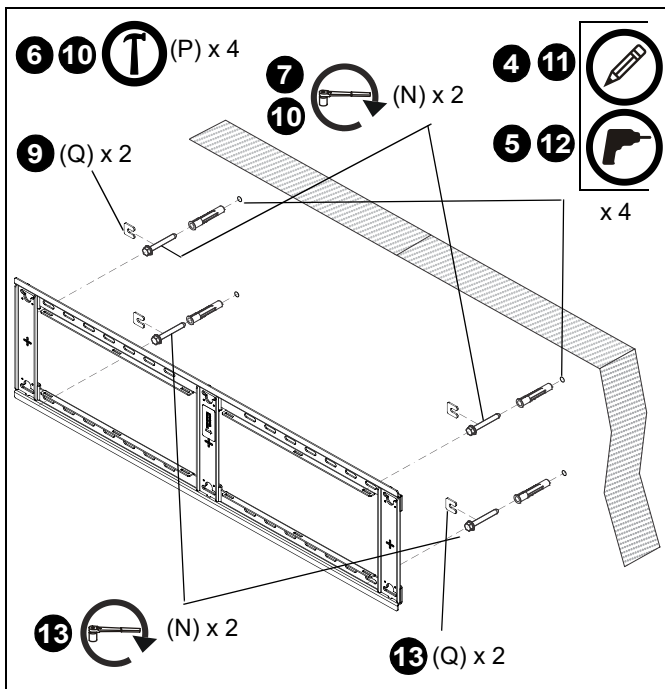

Figure 8
2. Line up the horizontal slots on mount (U) with center of screen marking to determine vertical center. (See Figure 8)
4. Using a level, mark the wall through both upper mounting slots. (See Figure 8)
6. Install an anchor (P) into each pilot hole using a hammer, making sure that the anchor is flush with the wall.
7. Partially install three 5/16 x 2-1/2" flanged lag bolts (N) into pilot holes but do not tighten to wall.
8. Hang mount (U), aligning upper mounting slots over lag bolts and adjust side-to-side for proper location.
9. Place one slotted washer (Q) over each flanged lag bolt. (See Figure 8)
10. Tighten lag bolts to secure mount (U) to wall at upper mounting slots.
11. Mark the attachment points for the lower mounting slots, making sure the attachment points are located on the studs. (See Figure 8)
12. Drill 3/8" x 3-1/2" (9.5mm x 88.9mm) pilot holes at markings for lower mounting holes. (See Figure 8)
13. Install an anchor (P) into each pilot hole using a hammer, making sure that the anchor is flush with the wall.
14. Use two 5/16 x 2-1/2" flanged lag bolts (N) and two 5/16" slotted washers (Q) to attach the mount to the wall through the lower mounting holes. (See Figure 8)
15. Slide mount (U) to approximate center of screen location.